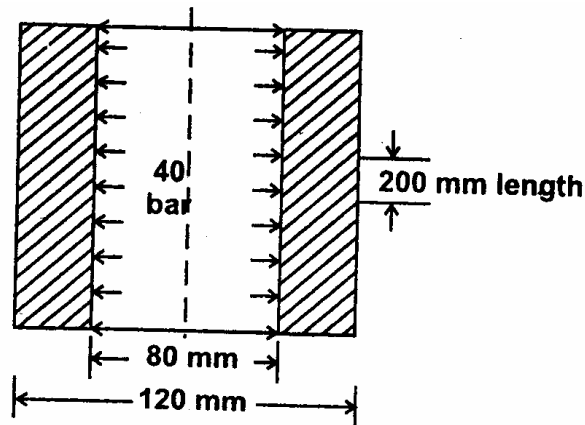

figure 4.6
6. A long hollow cylinder of inside dia 80 mm and outside dia 120 mm is subjected to an internal pressure of 40 bar as shown in figure 4.6. By using two elements on the 20 mm length, calculate the displacements at the inner radius.